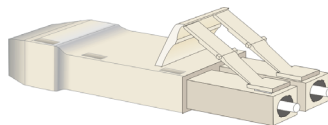

Figure 1-10 Loopback Plug
- **Loopback plug** - An SFP multimode (shortwave laser) or singlemode (longwave laser) loopback plug (Figure 1-10) is required to perform port loopback diagnostic tests. One loopback plug is shipped with the director, depending on the type of port transceivers installed. Both plugs are shipped if shortwave laser and longwave laser transceivers are installed.